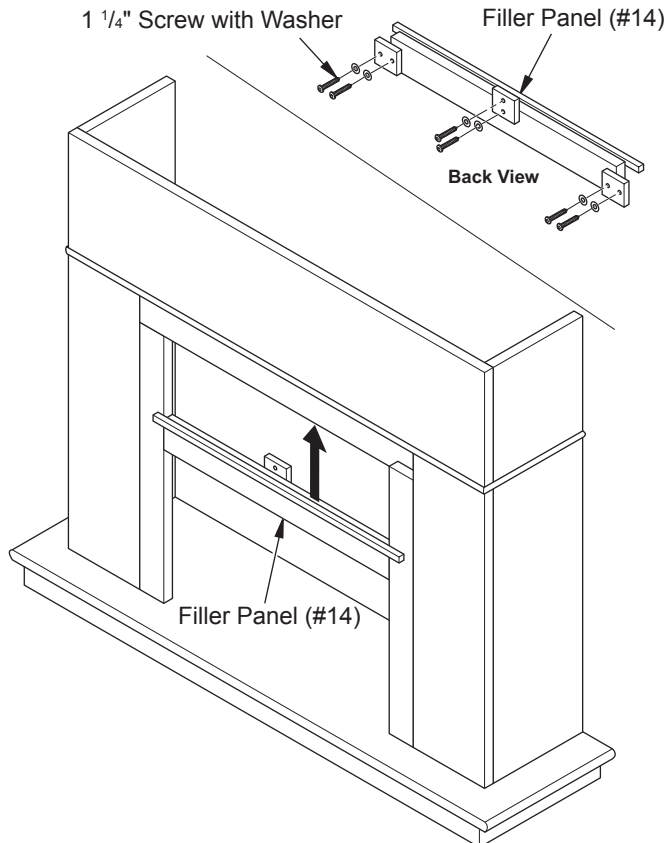

Figure 4 - Attaching Style Selections Filler Panel
1. Place Style Selections filler panel (#14) in position in front of mantel with trim strip to outside covering joint between filler panel and mantel (see Figure 4).
2. With one person holding filler panel in place, attach filler assembly (#14) to bottom of header mantel side using 3 filler panel blocks #15 and six 1 1/4" screws with washers (see Figure 4). Do not tighten screws.